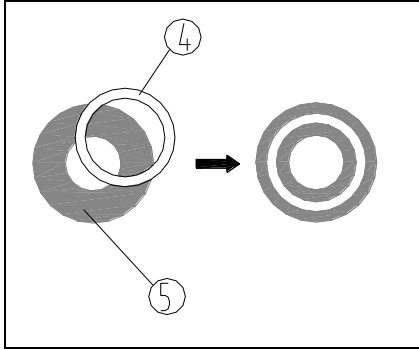

Fig. 28
3. Confirm the corresponding phase ring (in phase contrast objective) and halo (in phase contrast disc ②) are moved into optical path.
4. Adjust centering telescope to get a clear image of phase ring and halo in field of view (see Fig. 28).
5. Center by phase contrast adjusting lever ③ until halo ④ center overlap the phase ring center (see Fig. 27, Fig. 28).